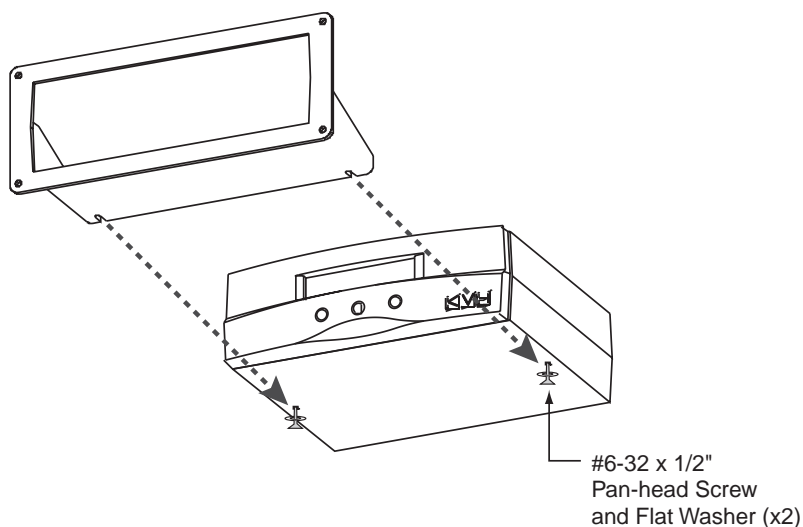

Figure 2-21
3. At the two holes in the bottom of the MCU, place a #6 flat washer on a #6-32 screw and insert the screw into the hole from below, as shown in Figure 2-21. Do not tighten the screws yet; just a few turns is sufficient.
4. Slide the flush mount bracket backward over the MCU until the two notches meet the screws as shown in Figure 2-21.